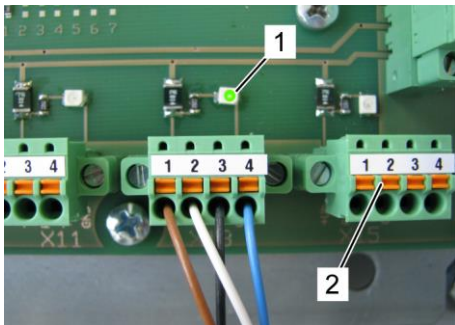

Fig. 116: Terminal box
1. Open the Terminal box and check all connected terminals for the respective LED (Fig.116/1) being on.
2. If a LED is off remove the respective connector (Fig.116/2).
- ↳ The LED (Fig.116/1) must be on.